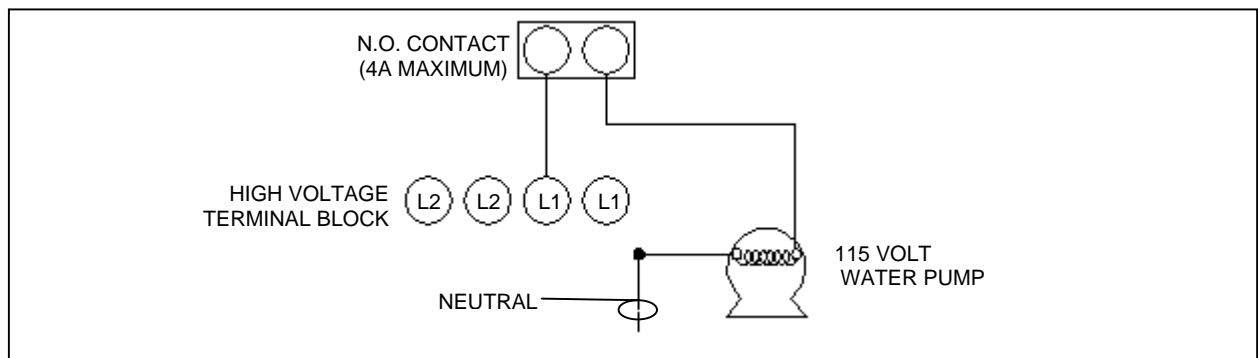

Figure 18 – WIRING A 115 VOLT WATER PUMP THAT MEETS ELECTRONIC BOARD'S 4A RATING
- Wiring a 115 volt water pump with a current requirement less than 4 amperes, see Figure 18.